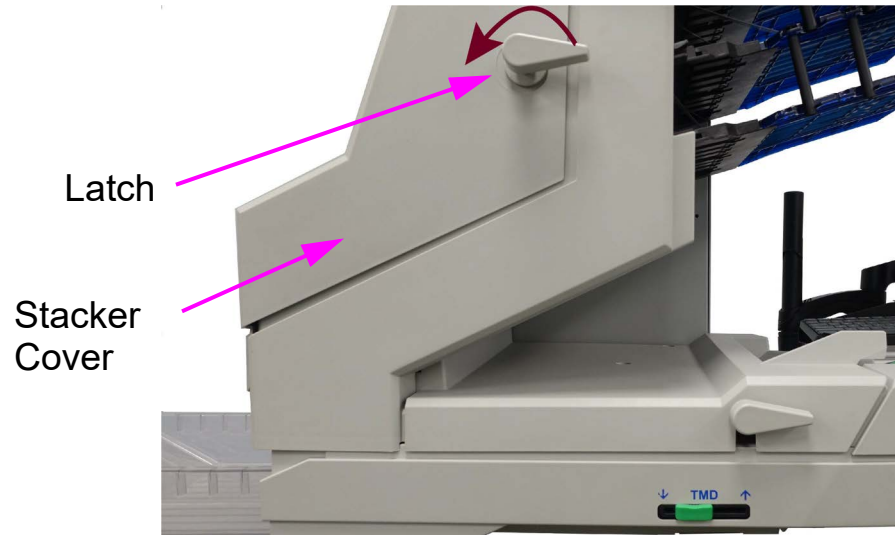

Figure 4-31: Opening the Stacker Cover
1. Turn the stacker latch counterclockwise and pull the stacker cover away from the scanner (Figure 4-31).